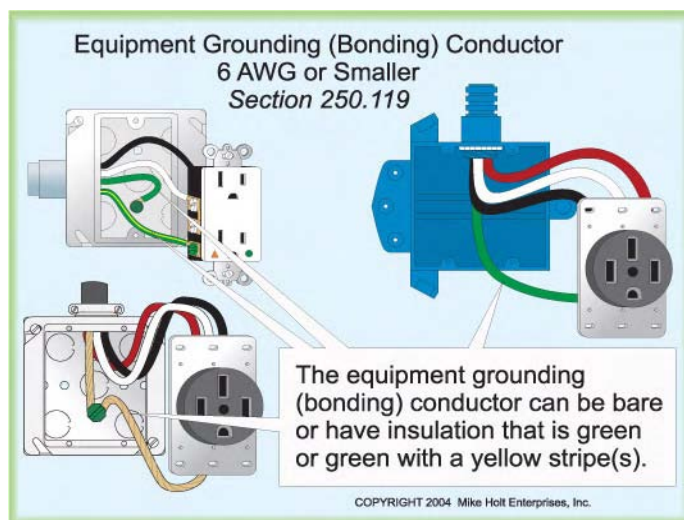

Figure 210-9
(B) Equipment Grounding (Bonding) Conductor. Equipment grounding (bonding) conductors can be bare, covered, or insulated. Insulated equipment grounding (bonding) conductors sized 6 AWG and smaller must have a continuous outer finish that is either green or green with one or more yellow stripes [250.119]. **Figure 210-9**